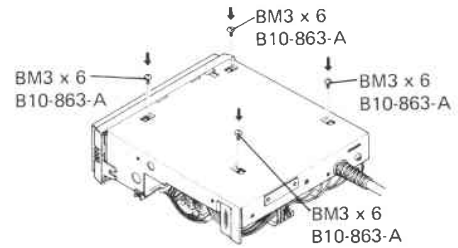

Fig. 9
3. Remove the screws marked with arrows (Fig. 9).